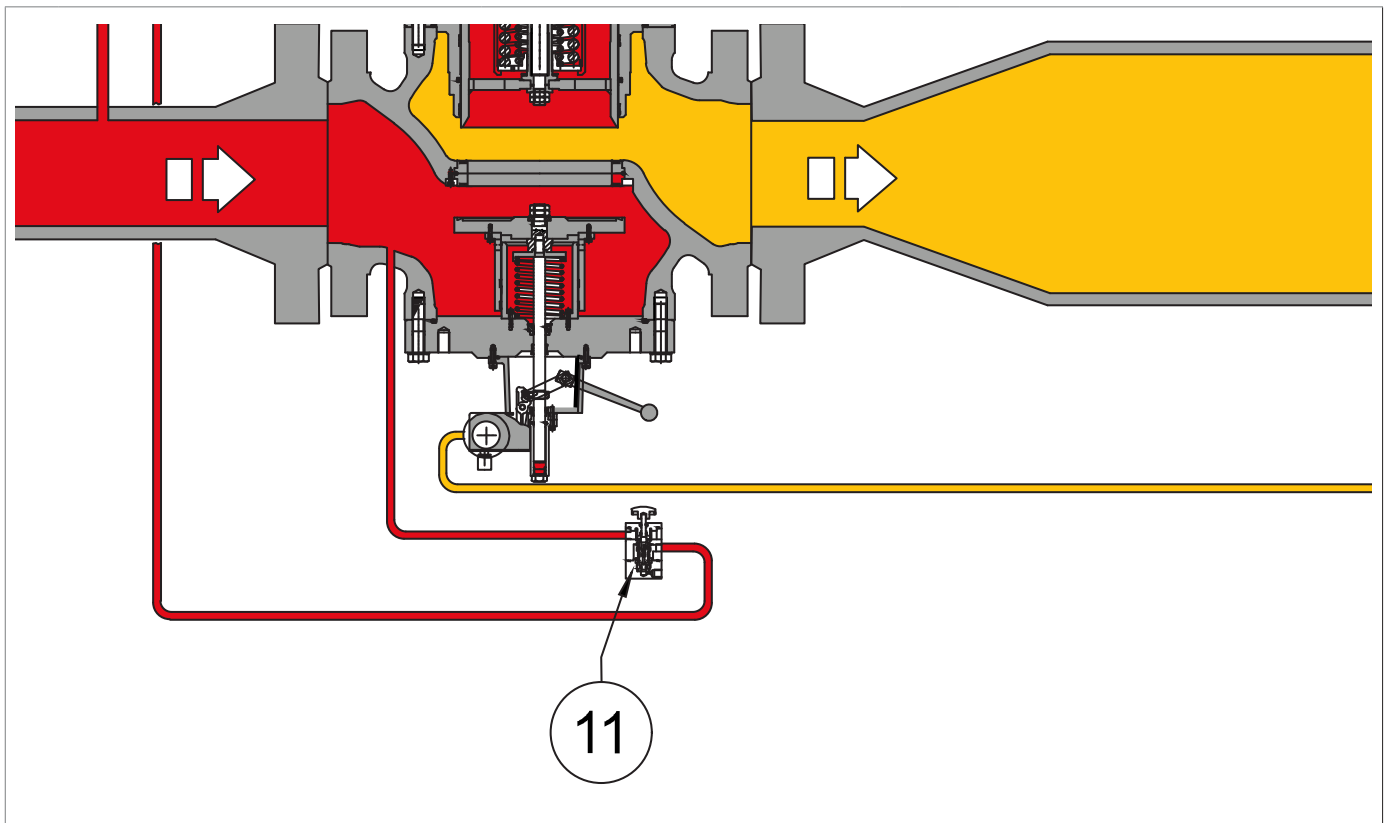

Fig. 4.11. HP2/2 bypass detail for incorporated SBC 82 10" slam-shut valve
**For the 10" version, bypassing must be performed using the HP2/2 bypass device (Fig. 4.11, ref. 11).**